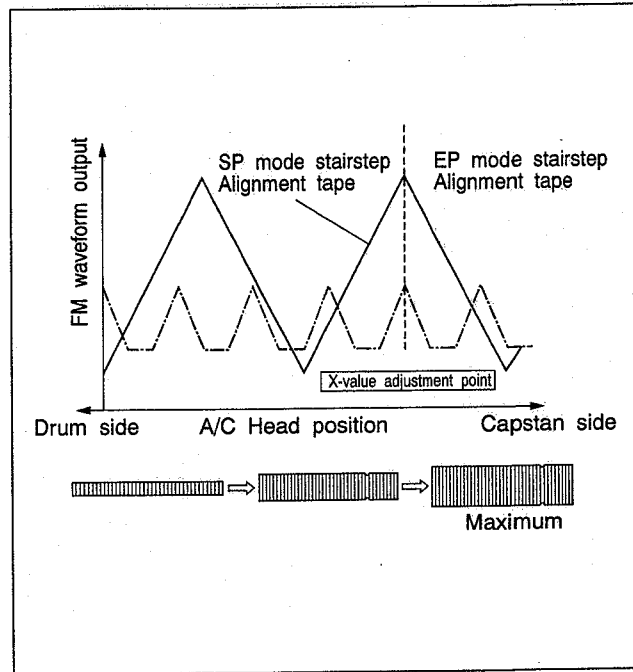

Fig. 2-7-7
- (5) Turn the tool first to position the A/C head fully toward the capstan. Then gradually return it toward the drum and stop at the position of maximum FM waveform output level as shown in Fig.2-7-7.
- (6) Tighten screw (5). Remove the tool and tighten screw (4).
- (7) Eject the SP alignment tape [MHP] and then re-insert the EP alignment tape [MHP-L].
- (8) Playback the EP stairstep portion of the alignment tape [MHP-L].
- (9) Set the neutral manual tracking position by simultaneously pressing the CH "-" and "+" buttons.
- (10) Confirm maximum playback FM waveform output level as shown in Fig.2-7-7.
- (11) If not maximum, slightly loosen the screws (4) and (5). Use the tool and adjust the head position for the nearest maximum point. Then tighten screws (4) and (5).